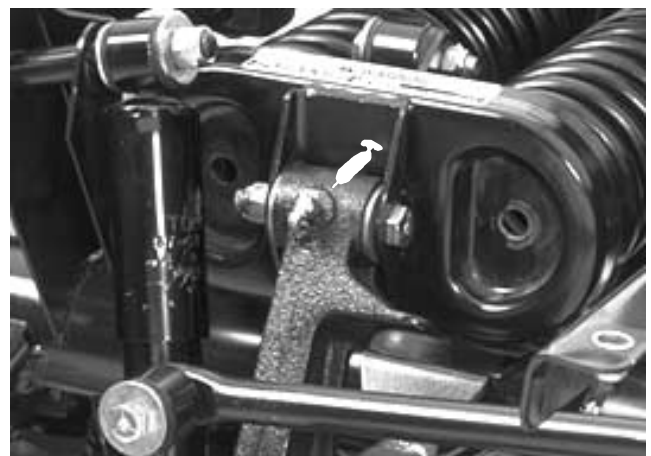

Figure 3
- C. **One** on each control arm tower, which can be accessed from under each front fender and the skirt assembly (Fig. 3).